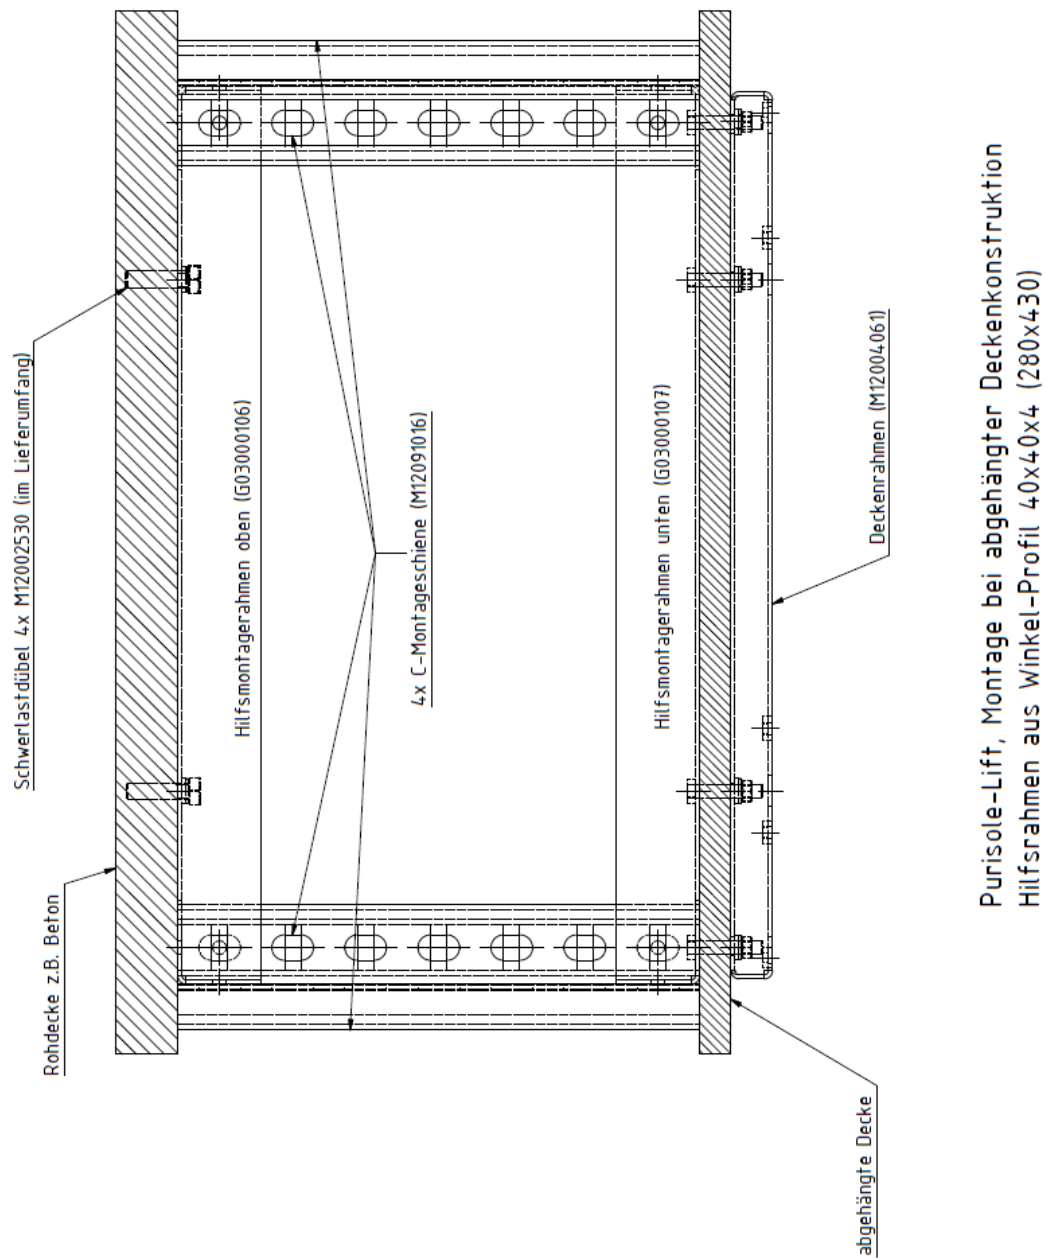

Figure 5.1: Purisole Lift, installation with hung ceiling structure, PL outside of hung ceiling
- Retainer bolts and a ceiling mount are installed at the site into the load-bearing ceiling of the building carcass as per Figure 5.1 (sketch: installation with hung ceiling) at the height of the hung ceiling (not in the supplied scope).
For hung ceilings, auxiliary installation frames are installed at the site on the load-bearing ceiling of the building carcass (also refer to Figure 5.1, sketch: Auxiliary frame for hung ceiling).